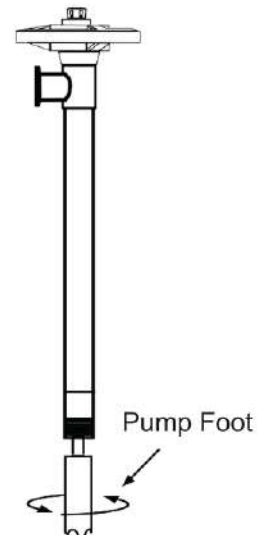

Figure 3
3. Remove the pump foot. (see figure 3)